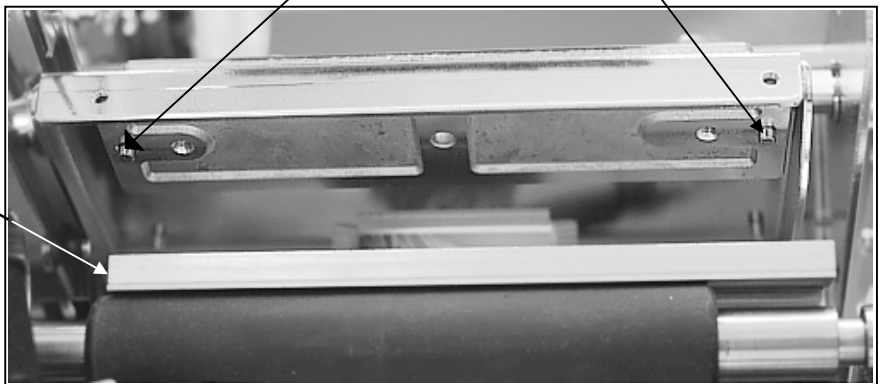

Fig. 6-6
8.	Position the print head so that the center screw is aligned with the mechanism and the alignment pins are aligned with the alignment holes on top of the print head. Fig.6-6